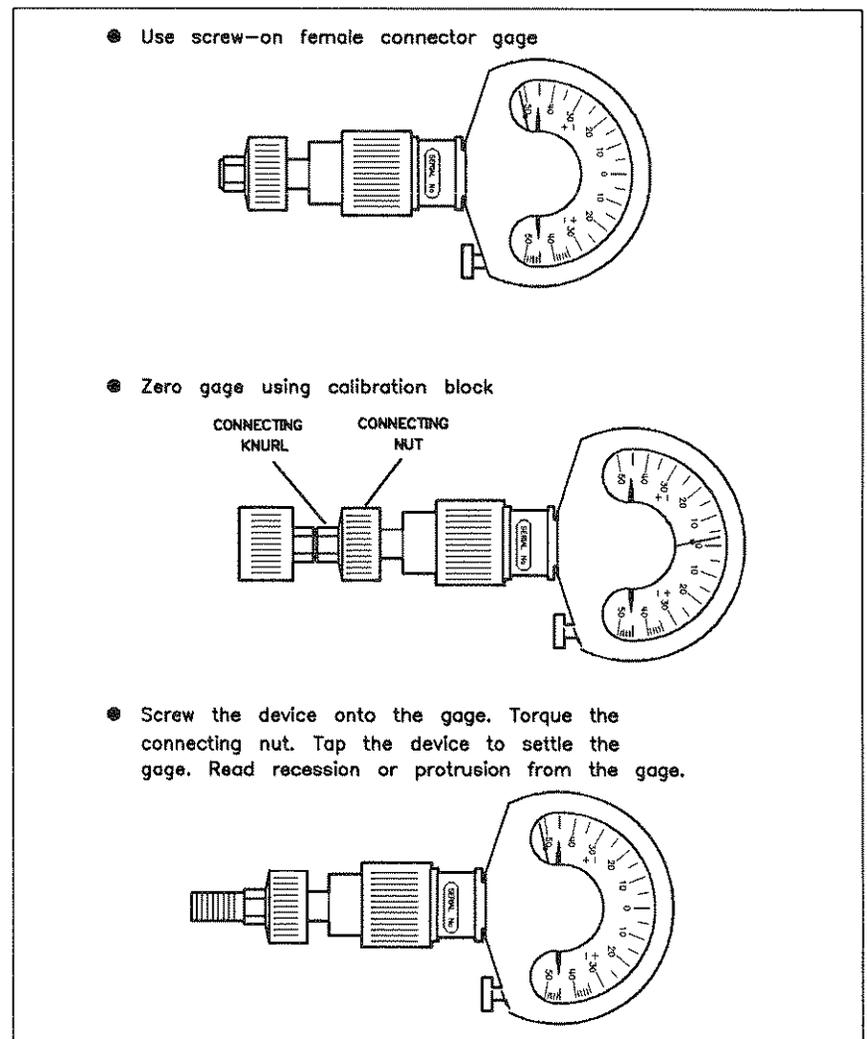

Figure 3-21. Gaging a 2.4 mm Female Connector
1. Refer to Figure 3-21 Using the female calibration block, zero the gage as described in the general procedure at the beginning of this chapter.